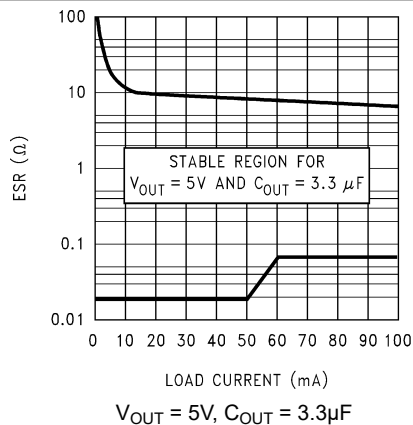
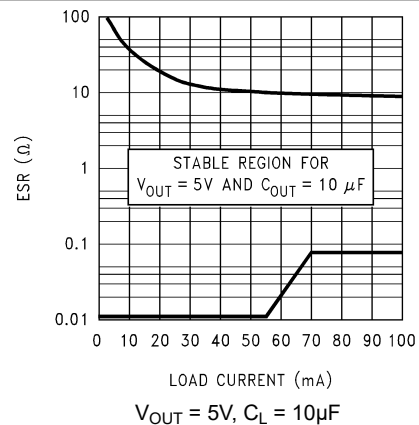
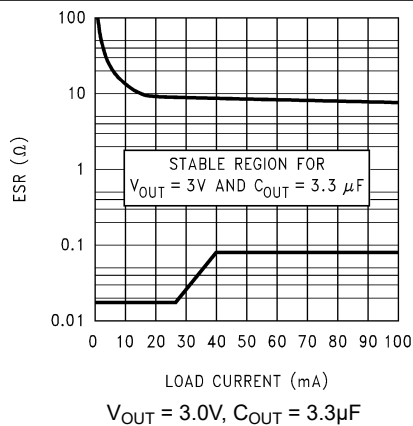
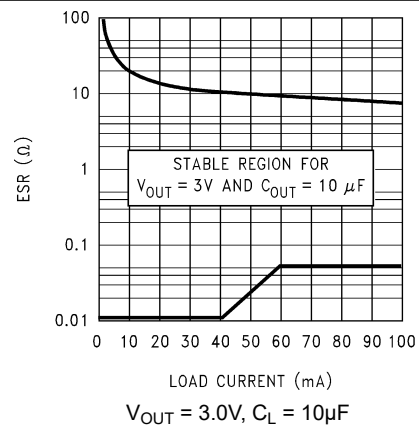

図 7-3. 5V, 3.3µF ESR Curves (Legacy Chip)
図 7-4. 5V, 10µF ESR Curves (Legacy Chip)
図 7-5. 3.0V, 3.3µF ESR Curves (Legacy Chip)
図 7-6. 3.0V, 10µF ESR Curves (Legacy Chip)
The output capacitor must meet both the requirement for minimum amount of capacitance and equivalent series resistance (ESR) value. Curves are provided that show the allowable ESR range as a function of load current for various output voltages and capacitor values (see Figure 7-3, Figure 7-4, Figure 7-5, and Figure 7-6).
- ESR range: See Figure 7-3, Figure 7-4, Figure 7-5, and Figure 7-6.